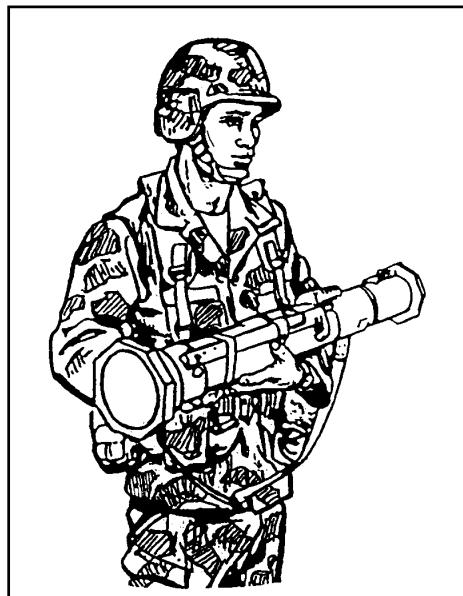

Figure 3-12. Cradle position.
- a. Remove the AT4 from its carrying position and cradle it in your left arm (Figure 3-12).